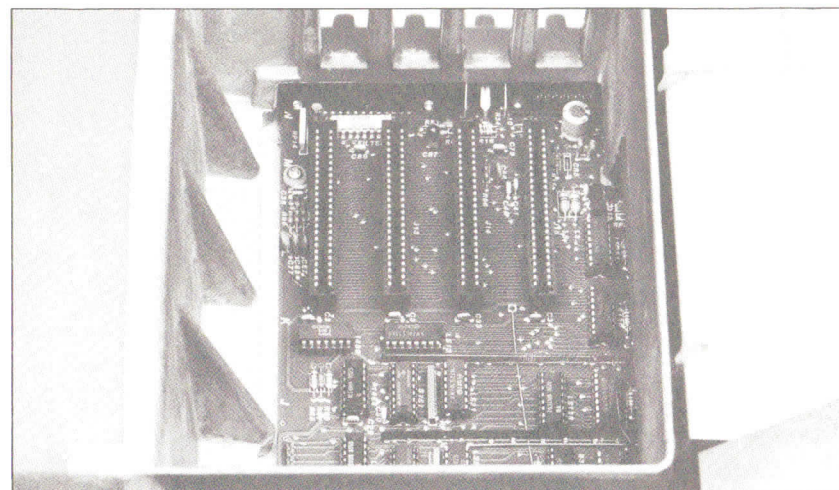

Figure 2-2. Apple III Peripheral Card Slots
- 7 Figure 2-2 Apple III Peripheral Card Slots
Now that you have removed the cover, look down into the rectangular well on the inside of the Apple III. Notice that there are four identical connectors (Figure 2-2) mounted on the main board. These connectors, often called "slots", are numbered, from 1 to 4, counting from left to right. Their purpose is to hold Apple peripheral interface cards. The ProFile demonstration program diskette supplied with your drive is configured to have the ProFile interface card installed in slot 4. You can install the card in any one of the slots, however, if you do not choose slot 4, you must first reconfigure the diskette by changing the peripheral slot assignment of the ProFile driver as explained in Chapter 3.